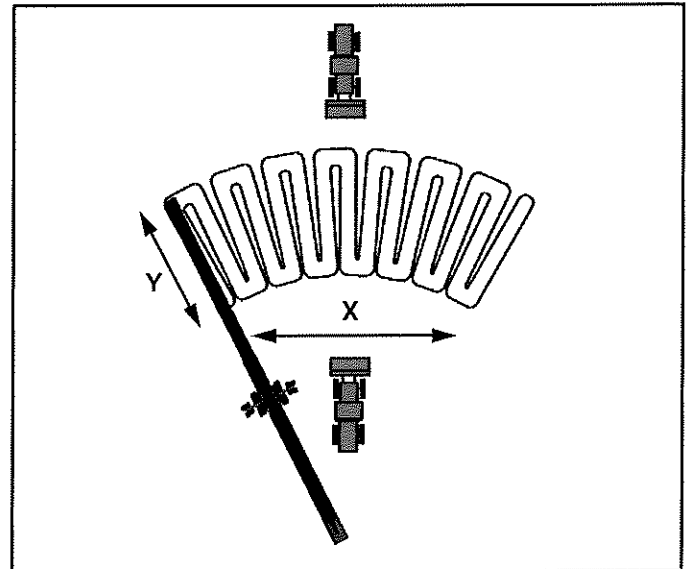

Figure 80
Once the parameters have been entered into the PLC and the conveyor is set to auto mode the conveyor program will build the pile continuously similar to the configuration shown (Figure 80) until the pile reaches the maximum height requirement.
- When the X dimension is less than the Y dimension. The conveyor would be used more efficiently when covering material over a more narrow area (Figure 80).
- When the loader needs to reclaim the material from the back or front of the pile for a better blend of material (Figure 80).